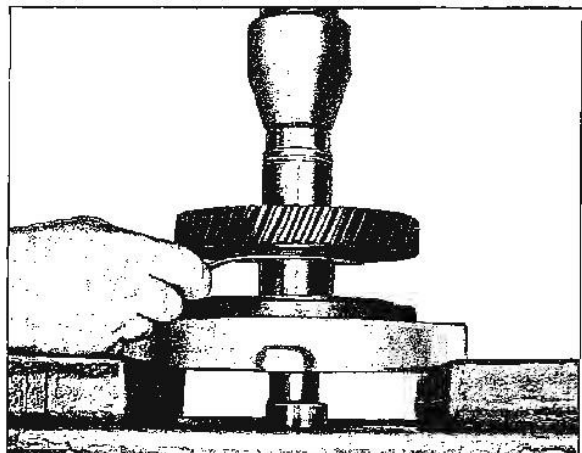

Fig. 6-43 Installing Camshaft Timing Gear and Checking Thrust Plate End Clearance
3. Install camshaft gear and press it onto the shaft until it bottoms against the gear spacer ring. Use a socket or other suitable tool. The end clearance of the thrust plate should be .001" to .005" (Fig. 6-43). If less than .001", the spacer ring should be replaced. If more than .005", the thrust plate should be replaced.